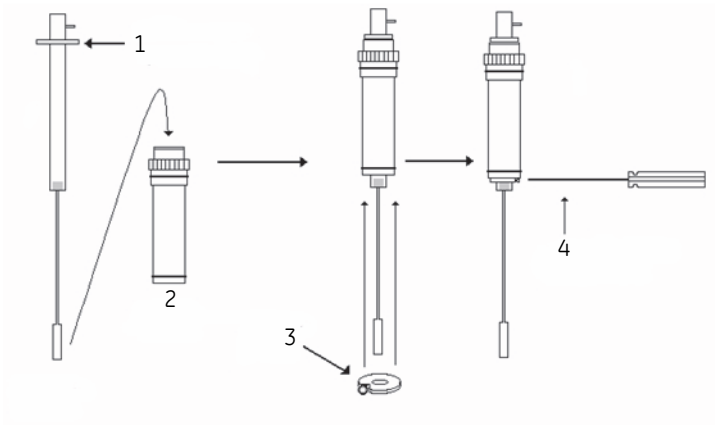

Figure 5-2. Pipette assembly.
- 1 Insert the injection syringe into the syringe holder until the top syringe clamp is firmly seated against the top of the syringe holder, being careful not to bend the needle against the inside of the holder (See Figure 5-2).
Table 5-2. Part in Figure 5-2.